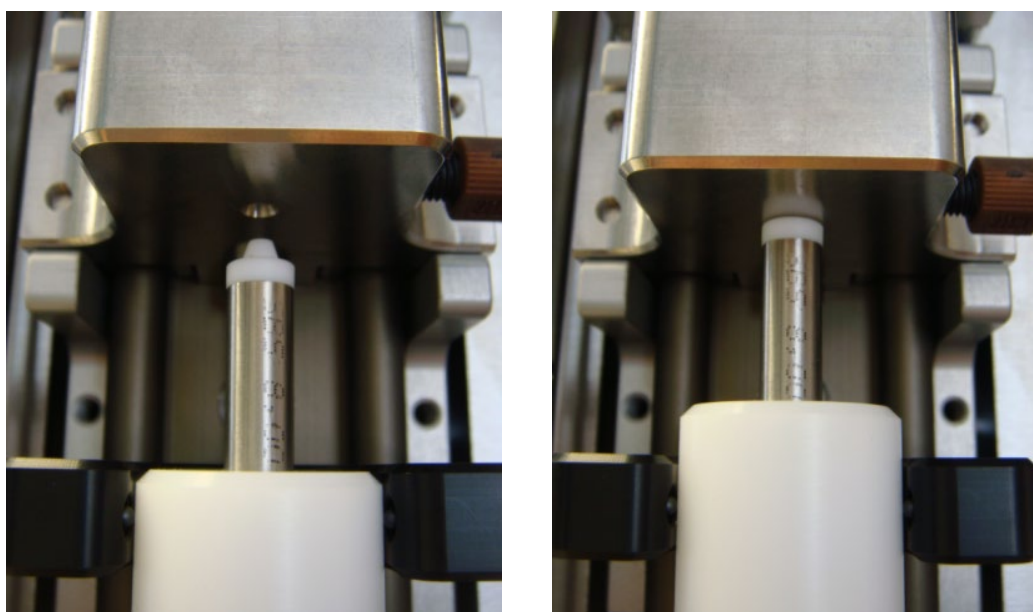

Figure 166: Checking the plumb position of the columns in the column tower. Left in the open position and right in the closed position.
- Check that the seat of the columns is plumb in the open (Figure 166, left) as well as in the closed (Figure 166, right) position.